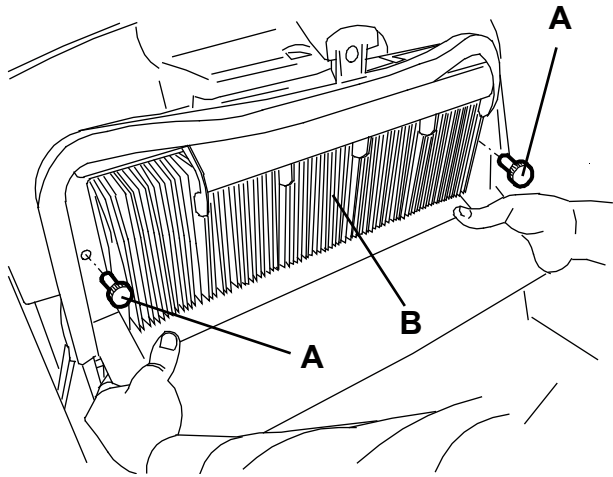
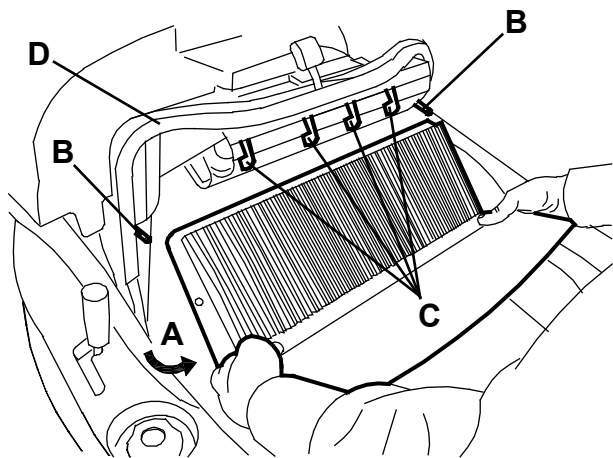
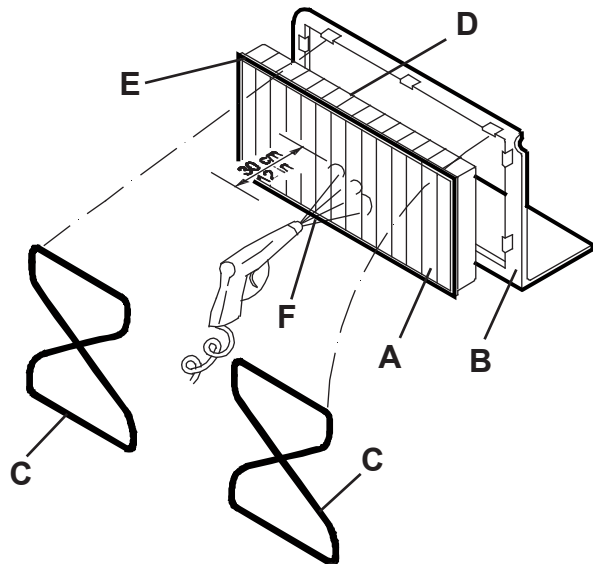

Figure 8
Figure 9
Figure 10
2. Turn the main switch (1) to "0".
3. Remove the hopper (9).
4. Loosen the knobs (A, Fig. 8).
5. Grasp the dust filter (B) as shown in the figure.
6. Remove the dust filter by turning it in the direction shown by the arrow (A, Fig. 9) to disengage it from the pins (B), then lower the filter to disengage it from the filter shaker combs (C).
7. Remove the filter (A, Fig. 10) from the frame (B) by disengaging the 2 rubber bands (C).
8. In an appropriate outdoor area, clean the filter by shaking it on a level and clean surface, tapping the side (D) opposite to the gasket (E).
- Complete the cleaning procedure by using compressed air (F) at maximum 87.0 psi (6 Bars), blowing only from the side of the gasket (E), at a minimum distance of 11.8 in (30 cm).
9. Clean the bearing surface of the filter rubber gasket (E) and check it for integrity and sealing capabilities. If necessary, replace the filter.
10. Clean the bearing surface of the hopper gasket (D, Fig. 9) and check it for integrity and sealing capabilities. If necessary, replace it.
Assemble the filter with the gasket (E, Fig. 10) positioned as shown in the figure.